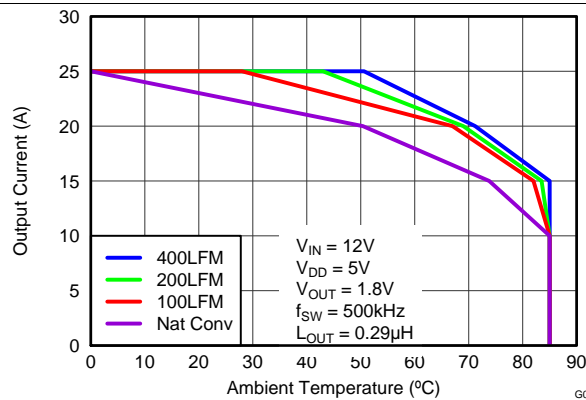
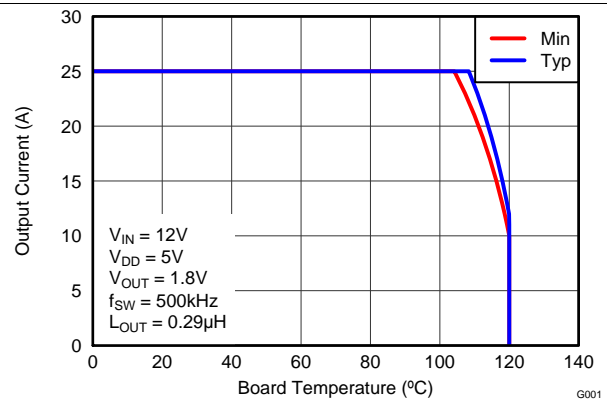

Figure 4. Safe Operating Area (SOA) – PCB Horizontal Mount ⁽¹⁾
Figure 5. Typical Safe Operating Area (SOA) ⁽¹⁾
The SOA curves in the CSD95375Q4M datasheet give engineers guidance on the temperature boundaries within an operating system by incorporating the thermal resistance and system power loss. Figure 4 and Figure 5 outline the temperature and airflow conditions required for a given load current. The area under the curve dictates the safe operating area. All the curves are based on measurements made on a PCB design with dimensions of 4" (W) \times 3.5" (L) \times 0.062" (T) and 6 copper layers of 1 oz. copper thickness.